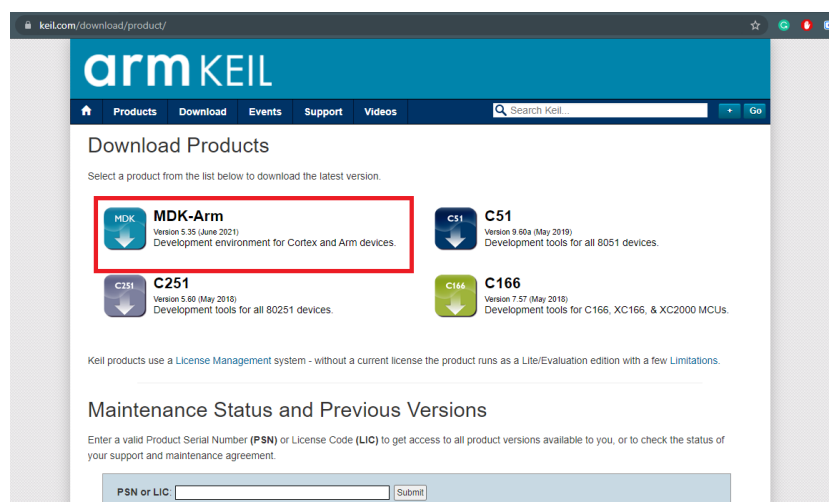

Figure 1
2. Select MDK-ARM as shown in Figure 1.